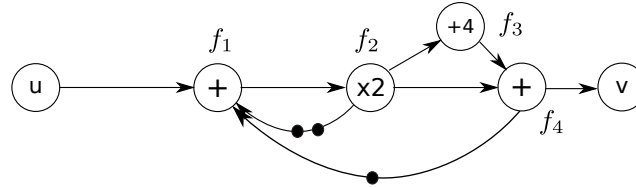

Figure 7: Marked graph G_M
Consider the marked graph G_M in Figure 7. The nodes labeled with $+$, $\times 2$, $+4$ represent addition, multiplication by 2, and addition with 4, respectively. f_1 , f_3 and f_4 need 1 time unit each, f_2 needs 2 time units. The input u is a sequence of numbers, with $u(k)$ representing the k -th number.
- (a) (7 points) Determine the output value $v(k)$ corresponding to the graph in Figure 7 as a function of the input values $u(\cdot)$ and previous output values $v(\cdot)$. Assume $k > 2$.